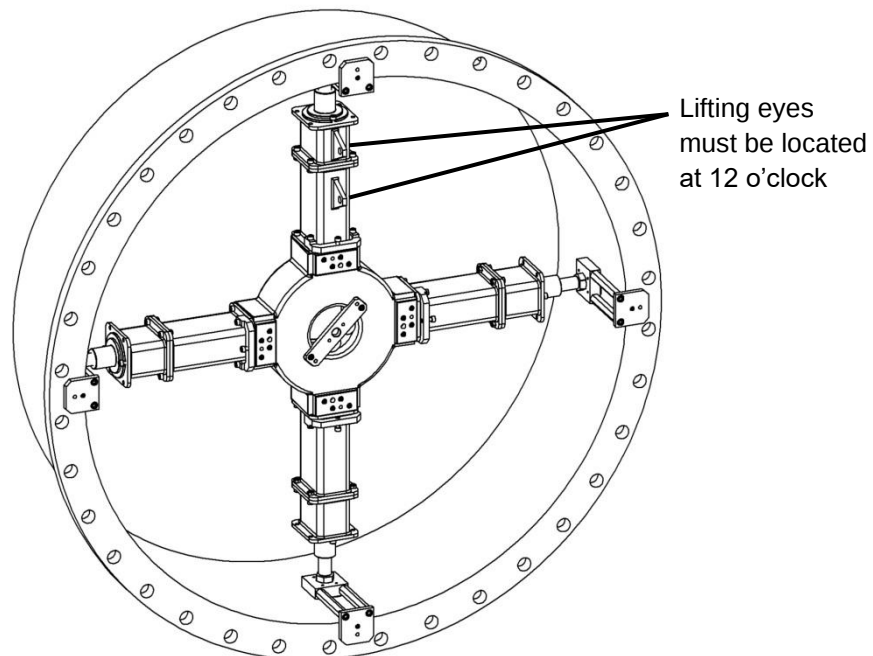

Fig. 17 Vertical lift - mounting base assembly positioned in the flange bore
1. Before lifting the base assembly into the bore adjust the 6 and 9 o'clock legs (looking down on the base, the leg with lifting lugs is at 12 o'clock, see Fig 17) to the exact radius of the flange bore. Attach the lifting cables and lift the base into position. Due to the offset centre of gravity of the unit when lifting the base the lower legs will protrude outwards toward the operator. Offer the base up to the bore and locate the 12 o'clock setting strap onto the flange face, then carefully manoeuvre the 6 o'clock leg into the bore at the same time slightly lowering the base to allow the bottom leg to be positioned in the bore.